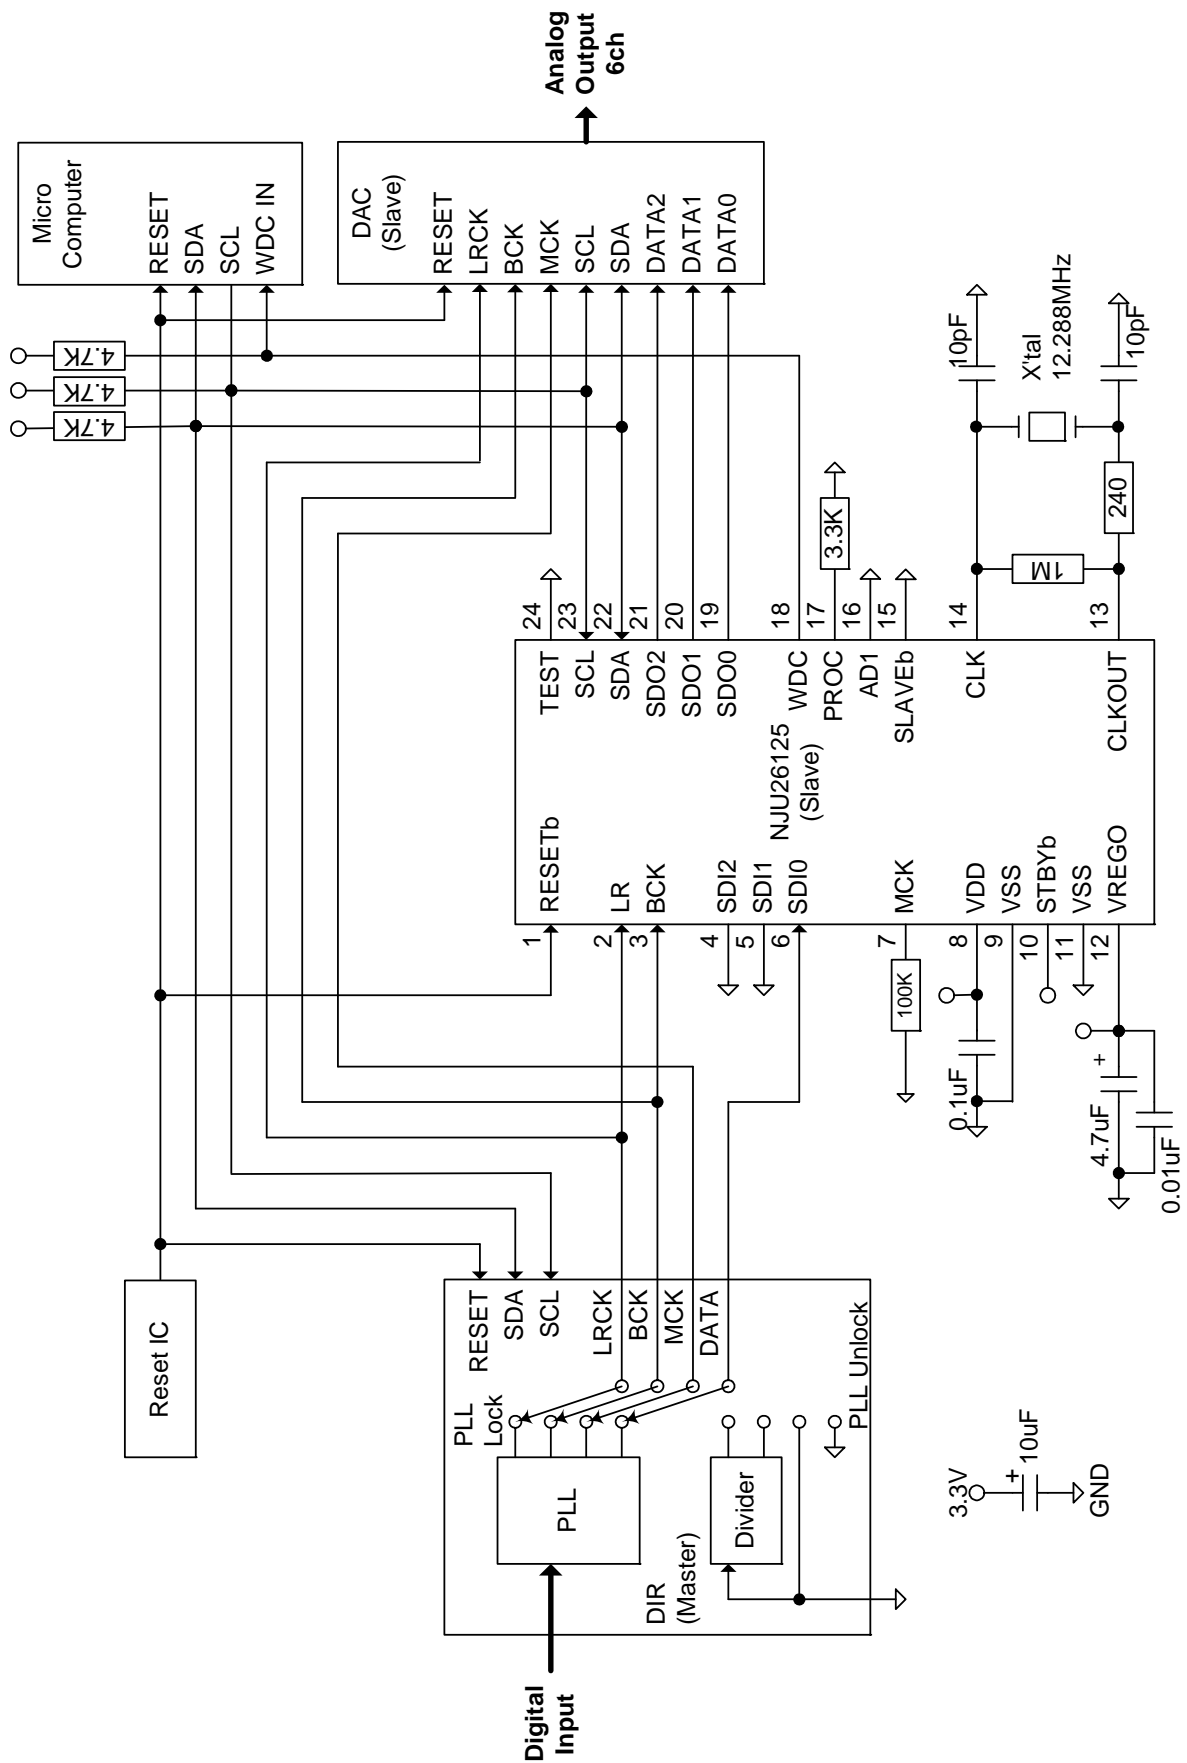
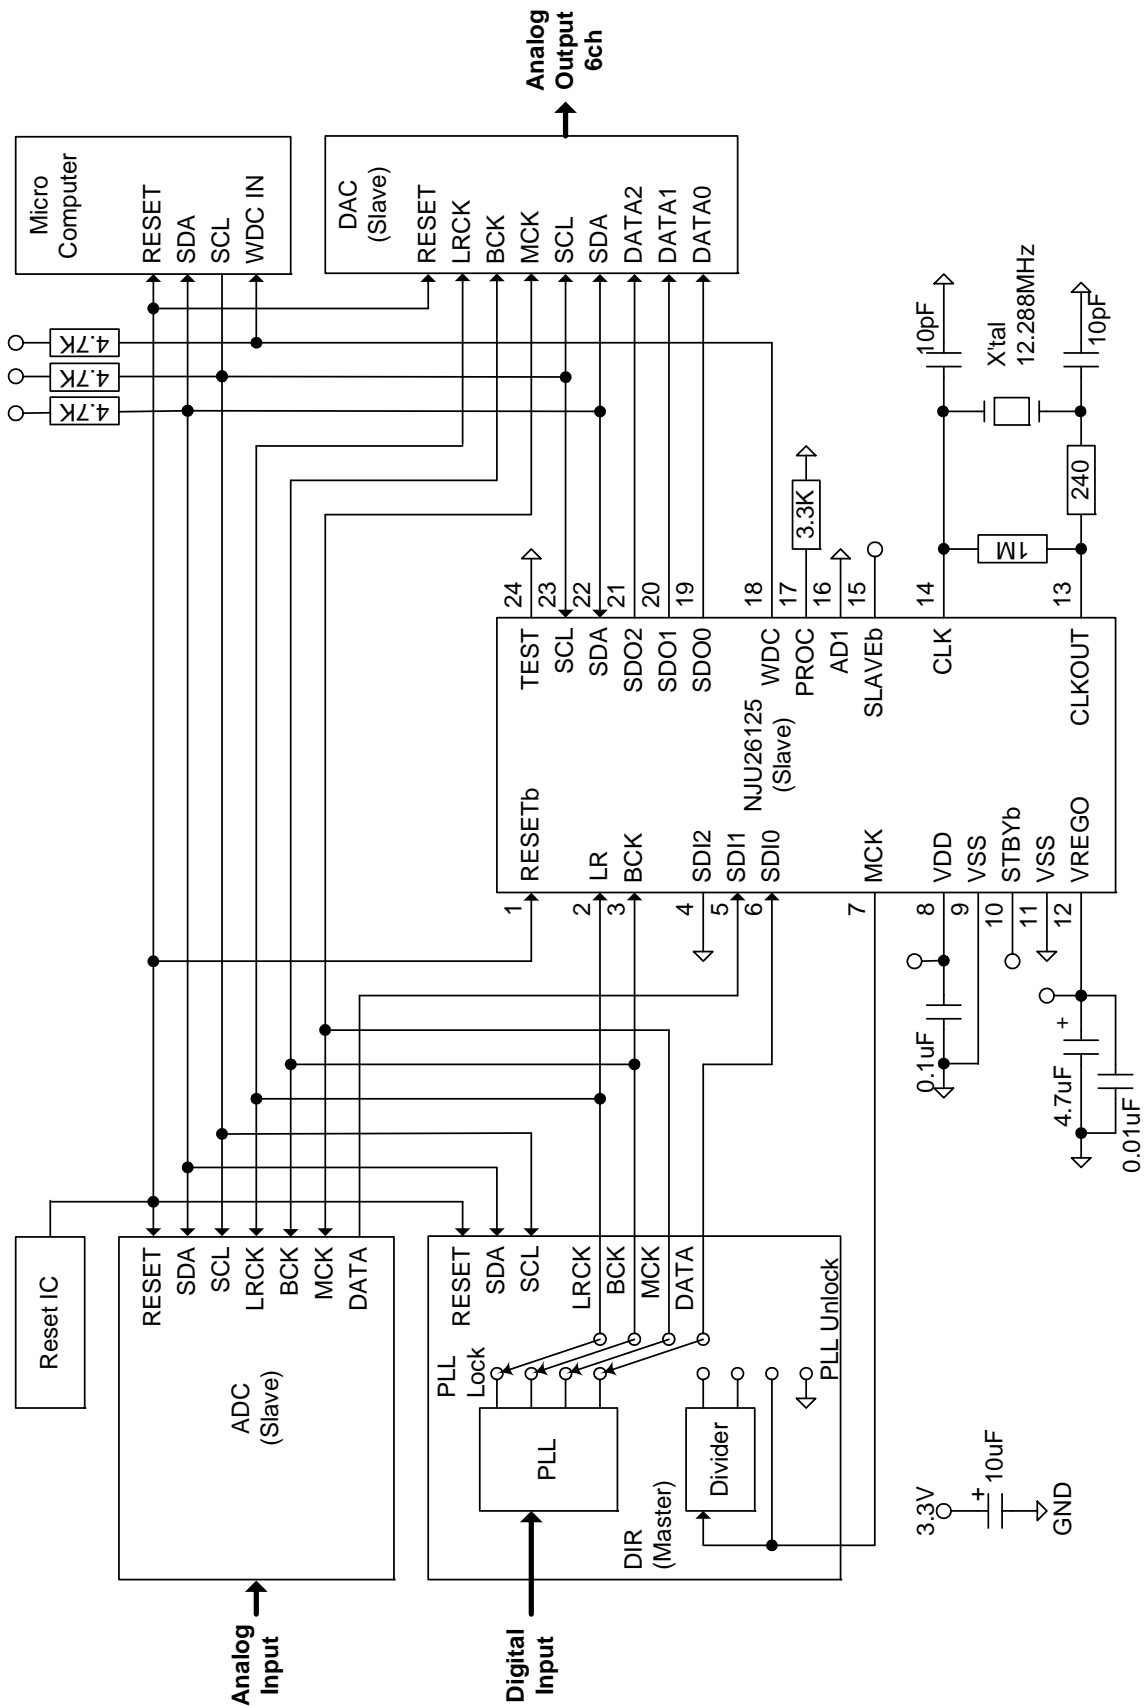

Figure 3. Application circuit 1: NJU26125 with DIR and DAC (I²C Bus)
Figure 5. Application circuit 3: NJU26125 with DIR, ADC and DAC (I²C Bus)
Note3: The ADCs and DACs operate in Slave mode in the Figure 3 to Figure 5.
The Figure 3 shows the circuit with DIR, DSP and DAC.
This application circuit 3 employs the analog audio signal input, for example ADC input, and digital audio signal input. The Figure 5 shows the circuit with DIR, ADC, DSP and DAC.
- 1) The DSP power supply is 3.3V. The input terminals accept 5V signal under the condition that the 3.3V is supplied to the DSP. The Figure 3 to Figure 6 circuits assumes the ICs that are connected to the DSP employ the 3.3V power supply. So the DSP can connect to the ICs directly.